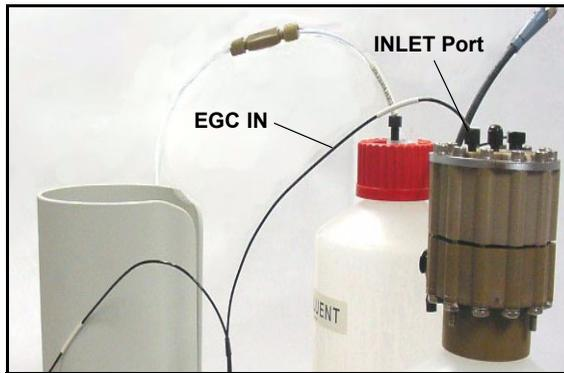

Figure 5-34. Connecting the EGC Inlet Port
13. Connect **EGC IN** to the EGC **INLET** port (see Figure 5-34).